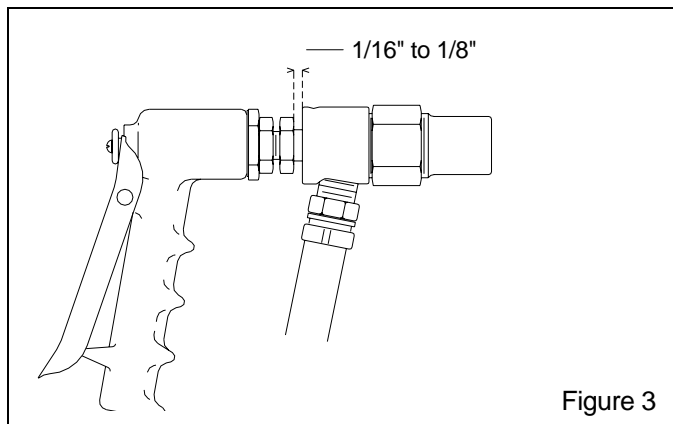

Figure 3
5.1.1 The air jet can be moved in and out of the suction body by loosening the set screw. This adjustment controls suction. Maximum suction is obtained when the jet is 1/16" to 1/8" from full forward, as shown in Figure 3.